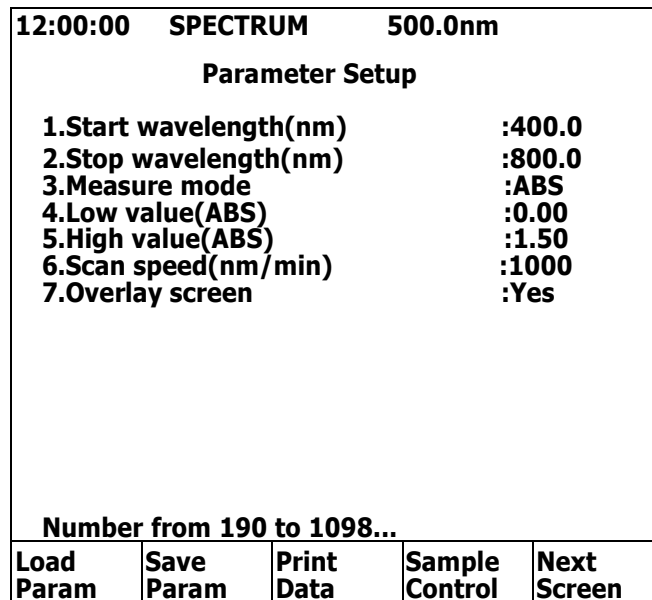

Figure 6.2 Setting of parameters
Step 2. In Parameter Setup, key in desired values or select proper choice in those 7 items step by step, followed by an ENTER (Figure 6.2). If any setting needs correction, use up/down arrow keys to move the cursor to the proper position. When all is done, press F5 Next Screen to get into the Spectrum screen.